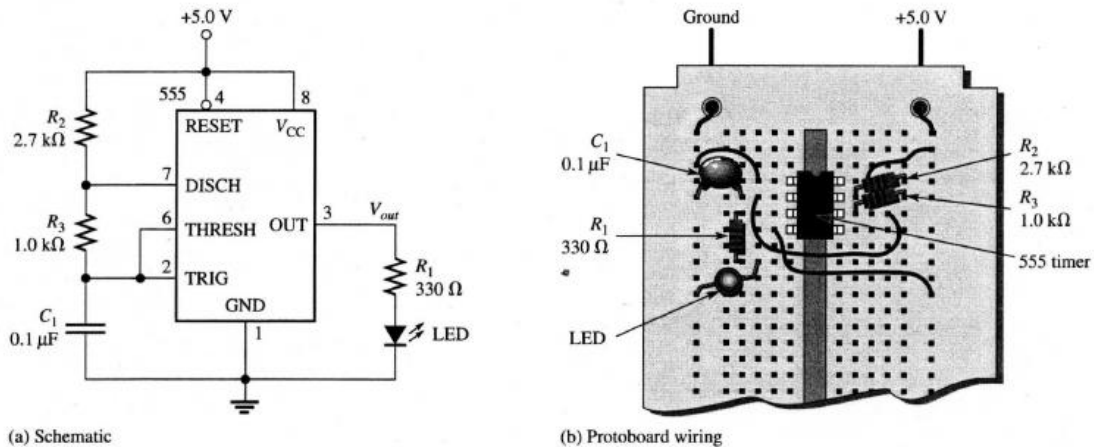

Figure L1.5: Example circuit for rectangular pulse generation
11. In this step, you will construct a small digital oscillator. This oscillator generates pulses that could be used to drive other digital circuits. The basic integrated circuit for the oscillator is the 555 timer, which will be covered in detail later. The schematic and sample protoboard wiring is shown in Figure L1.5. Construct the circuit as shown.